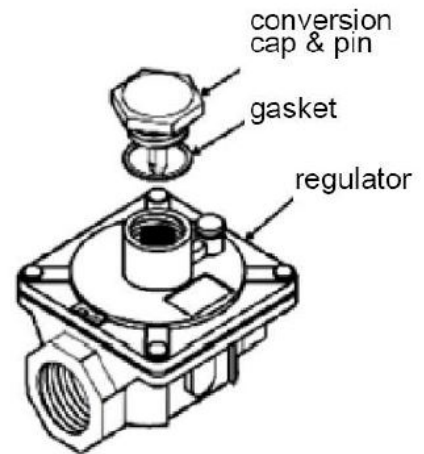

fig. 1 Gas pressure regulator
7. To operate with the LP gas, the regulator must be changed to operate at 10# WC (see fig. 1 on page 1). To do this, remove the converter cap and pin from the regulator, remove the pin and invert then reinstall in the cap. Replace the cap on the regulator taking care that the gasket is in place on the cap.